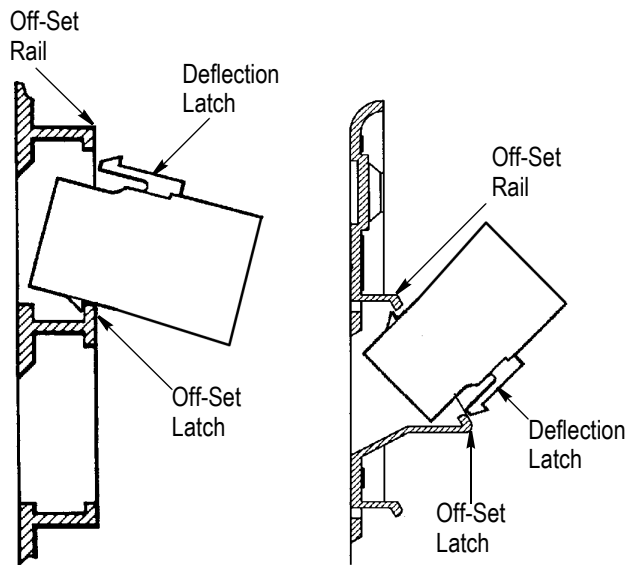

Figure 2
2. Align the modular jack or insert with the back of the faceplate so that the deflecting latch faces the off-set latch located on the back of the faceplate. Refer to Figure 2.